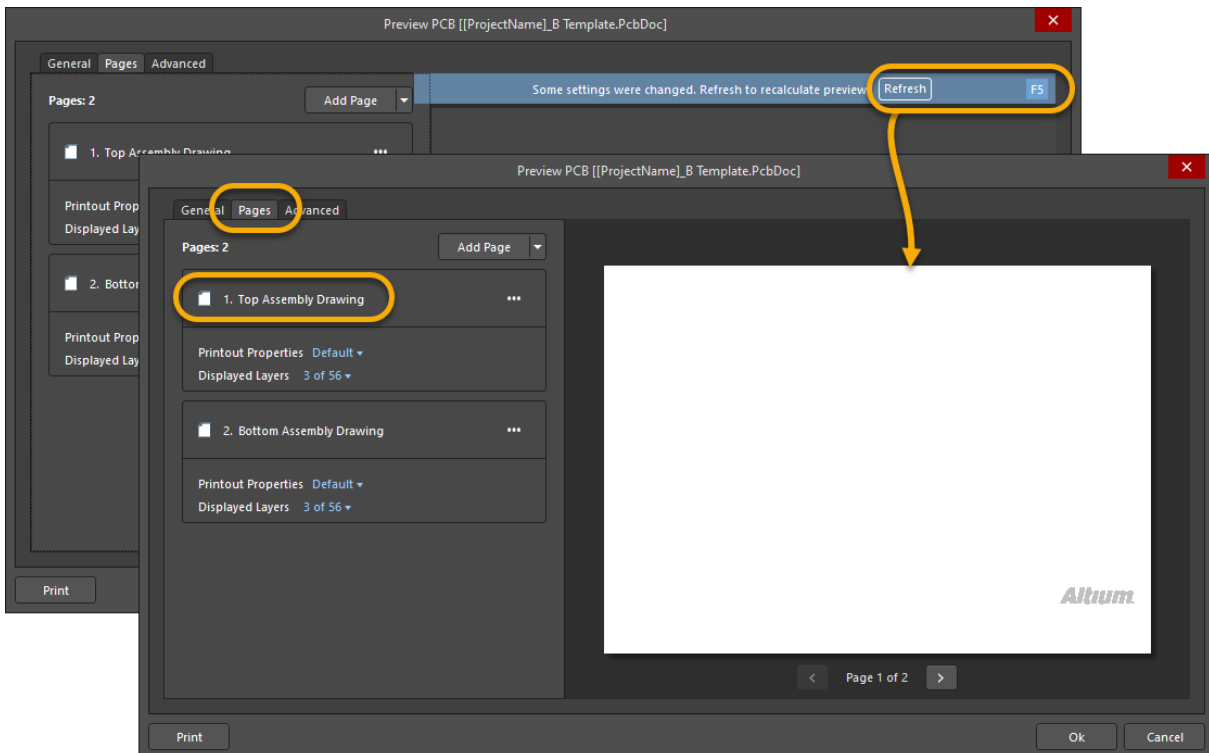

Figure 19. Preview properties dialog
66. Select the *Page* tab and click on *Refresh* as shown in Figure 19 to bring up the *Preview* as shown in Figure 19.